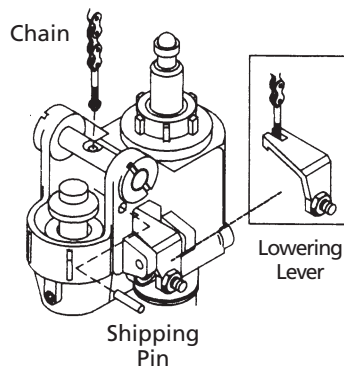

Figure 3 – Lowering Lever
4. Feed chain (included in handle assembly) through hole in handle shaft. Attach chain to lowering lever (See Figure 3).